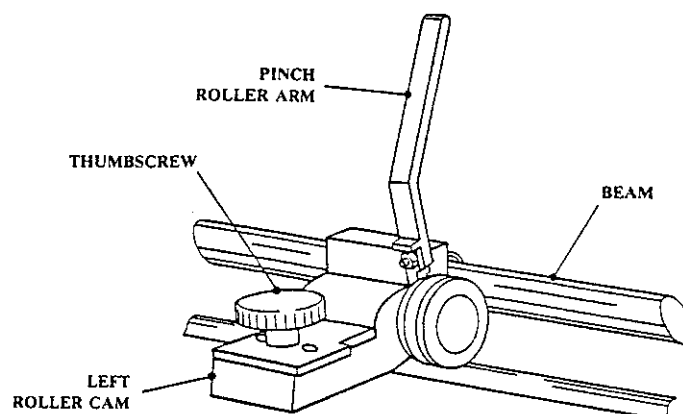
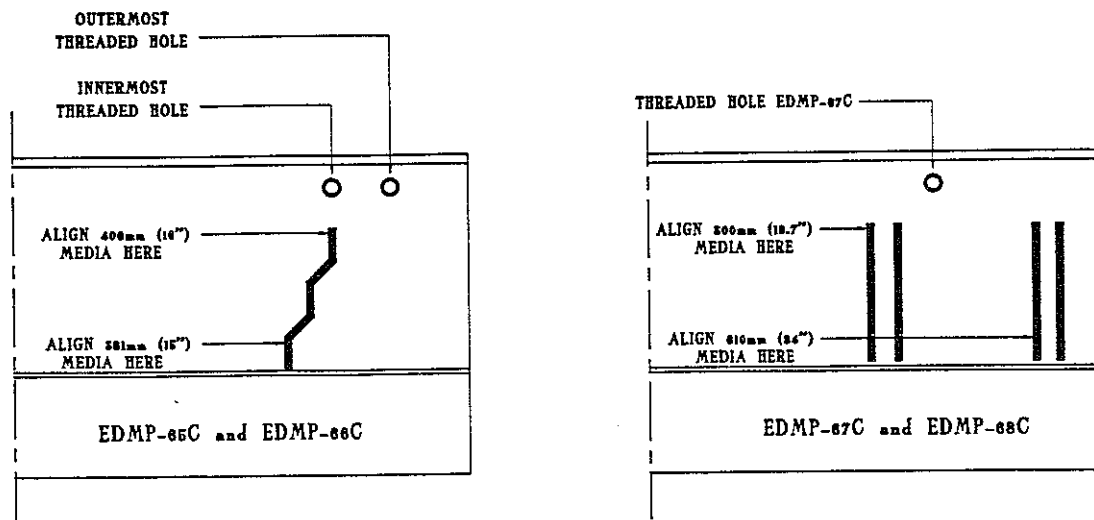

FIGURE 1-8. DMP-60C SERIES PINCH ROLLER ASSEMBLY THUMBSCREW
FIGURE 1-9. DMP-60C SERIES CHART ALIGNMENT MARKER AND THREADED HOLES ON PLATEN
Each pinchroller on the DMP-65C has a thumbscrew (see Figure 1-8) which secures the roller assembly in either one of two threaded holes in the platen (see Figure 1-9). (The pinch roller assemblies and head assembly are removed from Figure 1-9 to show platen details). If both roller assemblies are moved to and secured in the two innermost holes, then 381 mm (15 inches) sprocket media can be installed. If both roller assemblies are moved to and secured in the two outermost threaded holes, then 406 mm (16 inches) plain media can be installed.
2. To configure the DMP-65C to handle 15 inches (381 mm) media, move each roller assembly to the two innermost threaded holes on the platen (see Figure 1-9). To configure the DMP-65C to handle 16 inches (406 mm) plain media, move both roller assemblies to the two outermost threaded holes on the platen. Be sure that the thumbscrews are aligned with the threaded holes, and then tighten the thumbscrews by turning them clockwise until they are finger-tight.